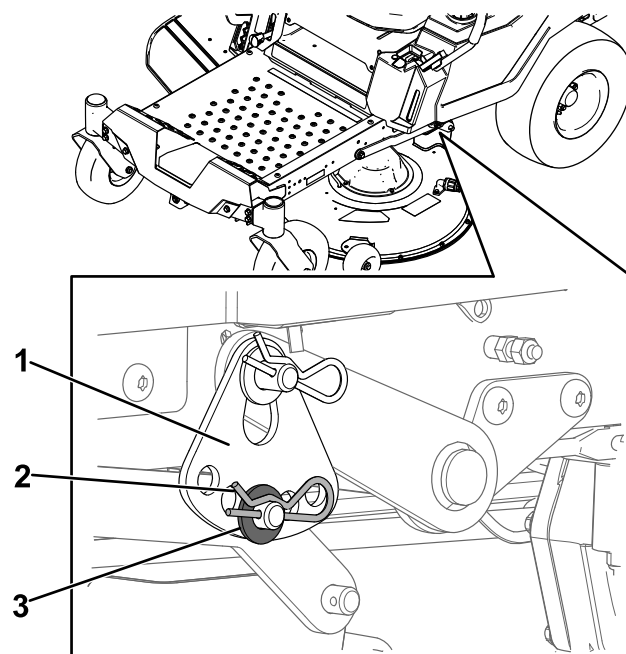

Figure 61
6. Remove the hairpin cotter and washer from the lower lift-arm pin (Figure 61).